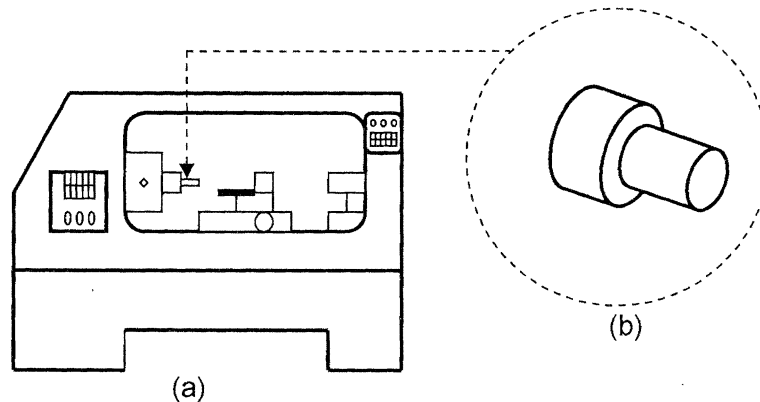

Figure 5
5. Figure 5(a) shows an advanced machine used to produce a product such as in Figure 5(b).